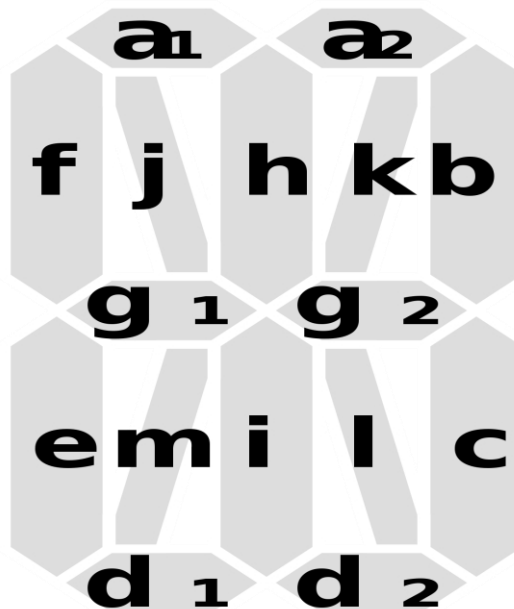

Figure-31 Sixteen segment display
- A sixteen-segment display (SISD) is a type of display based on 16 segments that can be turned on or off according to the graphic pattern to be produced. Figure-31 shows sixteen segment display. It is an extension of the more common seven-segment display, adding four diagonal and two vertical segments and splitting the three horizontal segments in half.